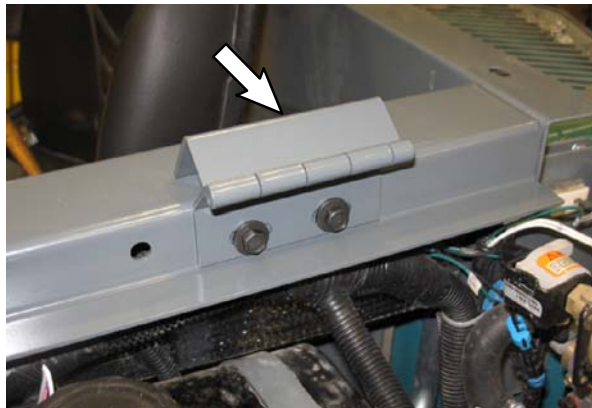

FIG. 46
- 60. Use two SEMS hex screws (16) and two hex nuts (17) to install both top cover hinges (61) onto the operator station lip (55). (Fig. 46)